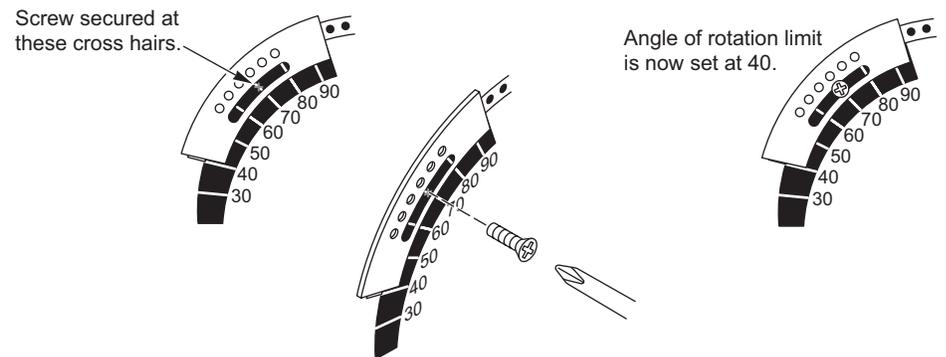

Figure-1 Securing the AM-689 Rotation Limiter.
2. Locate the AM-689 rotation limiter on the actuator so that its edge lines up with the degree graduation on the actuator face which corresponds with the required rotation. See (Figure-1).